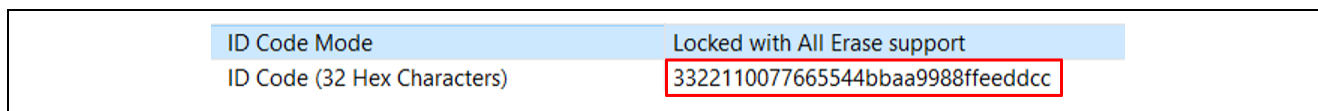

Figure 54. Setup ID code in configurator
Step 11: Reset the OSIS ID to all FFs in the configurator for the blinky project (see Figure 54) and compile the project.